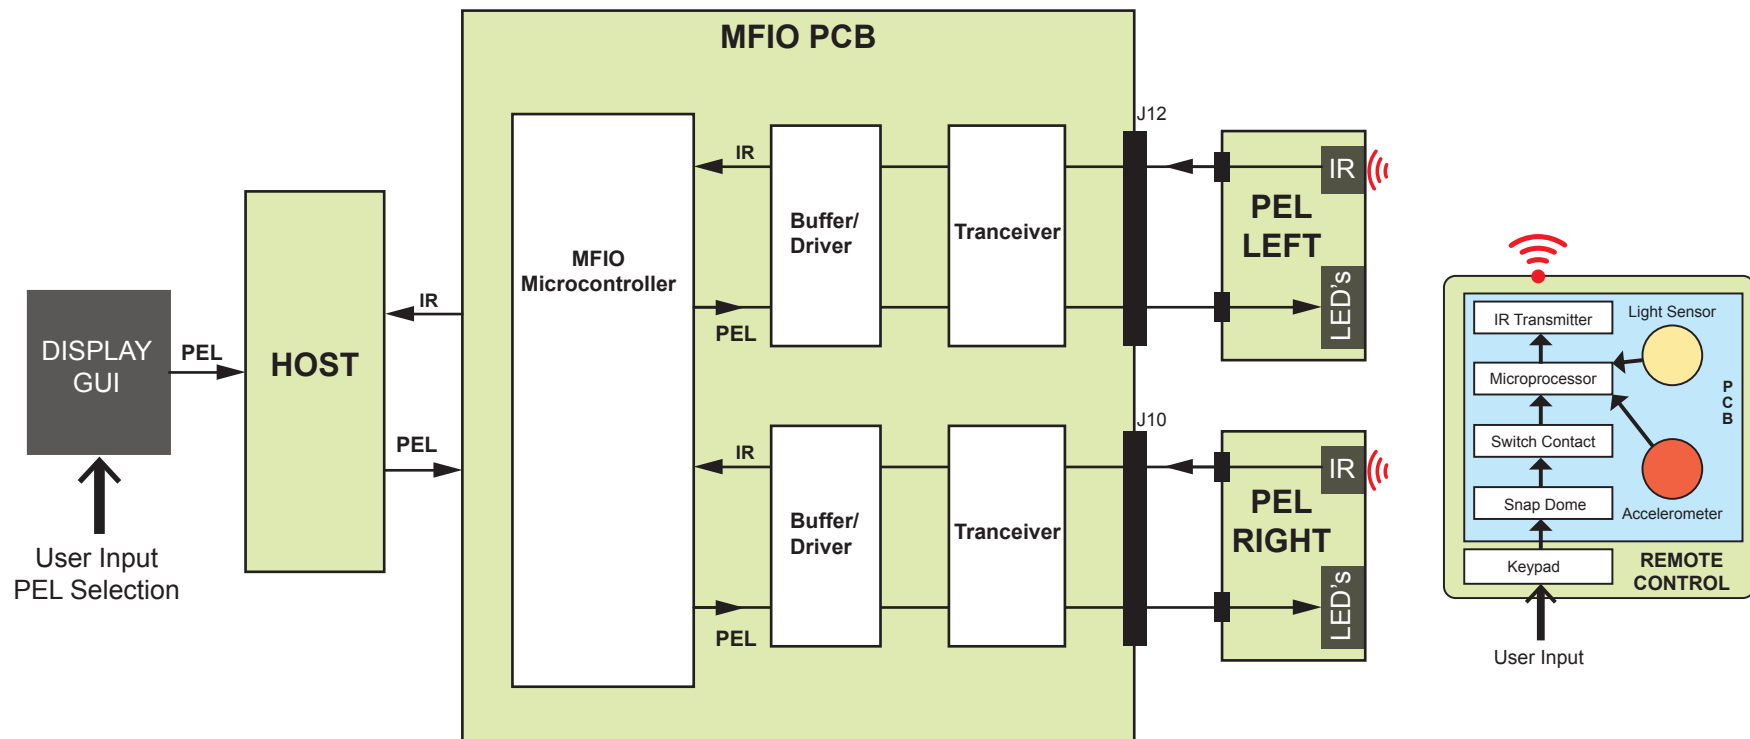

Figure 2-15 PEL Panel / Remote Control Block Diagram
11. PEL (PATIENT EYE LEVEL) PANEL (see *Figure 2-15*)
12. REMOTE CONTROL (INFRARED) (see *Figure 2-15*)